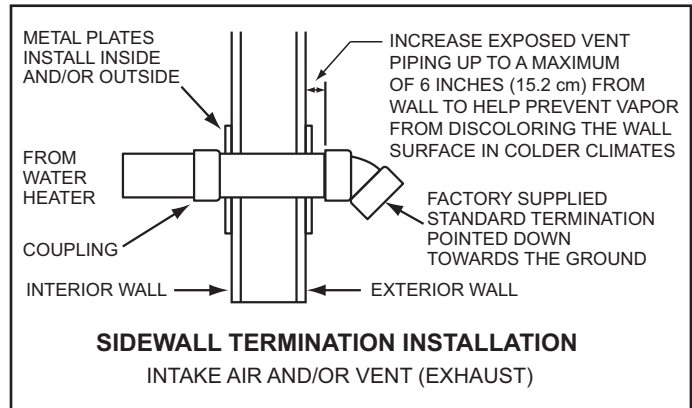

Figure 23
- Cut a length(s) of pipe being installed 3.5 inches (8.9 cm) to 9.5 inches (24.1 cm) longer than the wall thickness at the opening. See Figure 23.
- Working from outside, slide the pipe and termination(s) assembled in the above steps through the wall. Ensure the termination(s) is pointed down towards the ground. See Figure 23.
- Install a coupling to the end of the pipe(s) inside the building. Before the silicone caulking has time to completely set go outside the building and ensure the termination(s) is still pointing down towards the ground. See Figure 23.